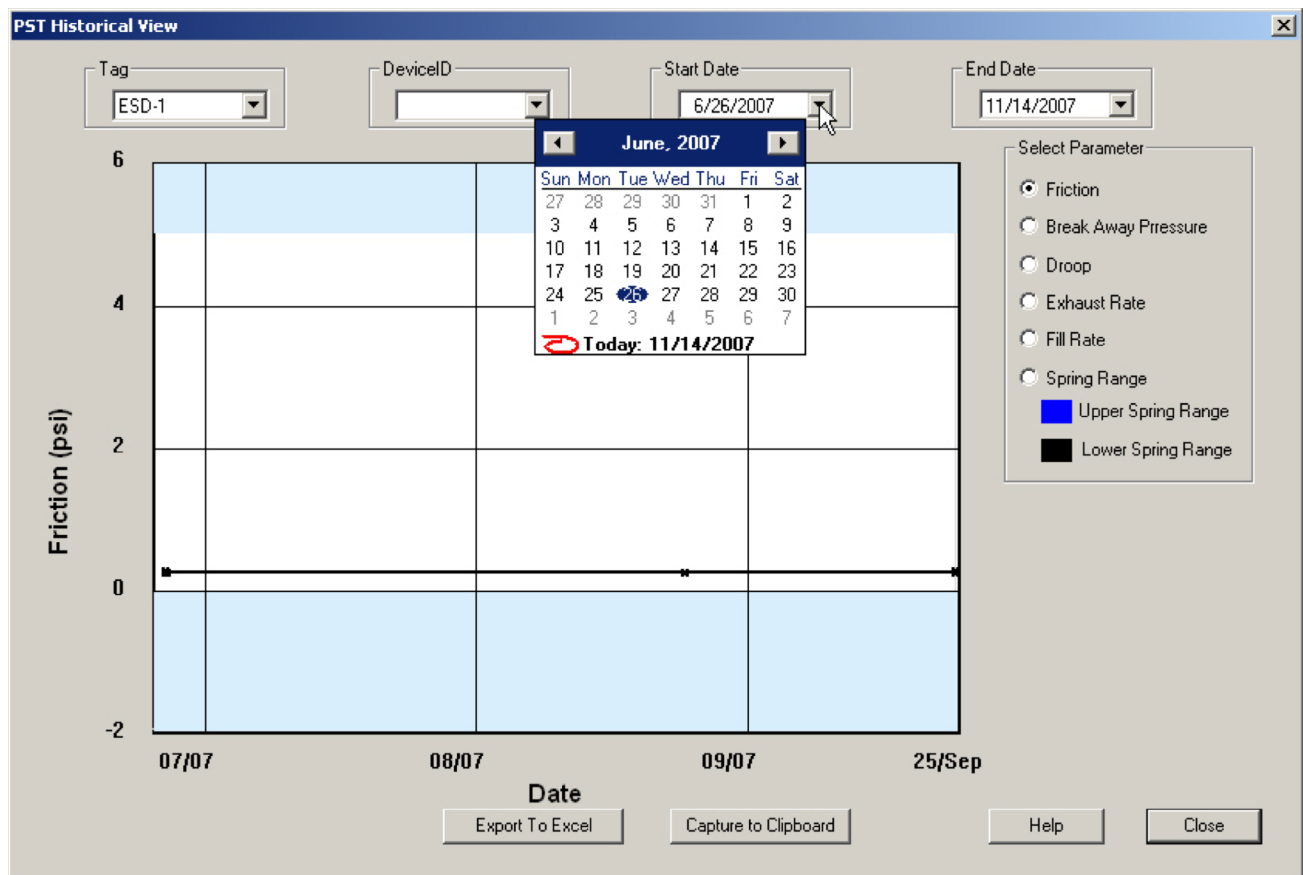

Figure 295 - Selecting Start Date for Historical View
The *PST Historical View* window appears as shown in Figure 295 on page 281.
- a. Click in the drop down, located at the right of PST schedule date field and access the date calendar (*Figure 295*).